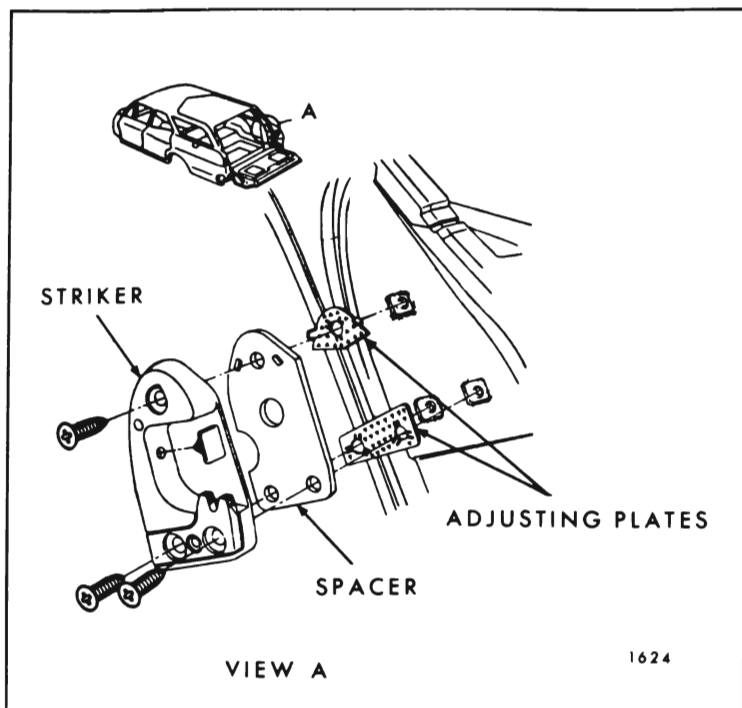

Fig. 9-45—Tail Gate Lock Striker Assembly
3. To install, align striker and components within pencil marks and install attaching screws. (See Fig. 9-45.)